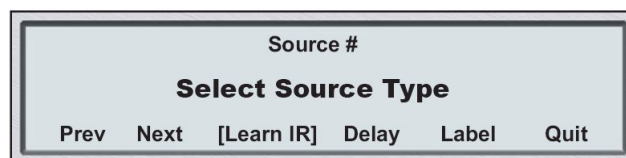

FIG. 25 Select Source Type - Learn IR
4. Once a source has been selected, the *Select Source Type* screen will be displayed. The menu selection immediately defaults to the **Learn IR** selection in the first screen of the *Select Source Type* screen (FIG. 25). The source number is displayed at the top of the screen.